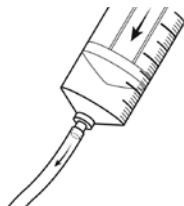

Figure 31
1. Test catheter patency via infusion of 100-500 cc sterile saline (Figure 31).